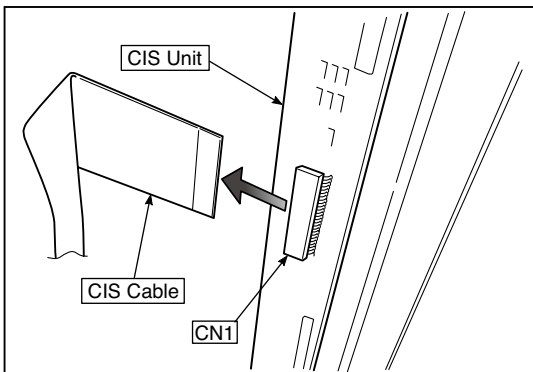

Fig.17
1.Disconnect the CIS Cable (FFC), shown in the figure 17, from a connector.